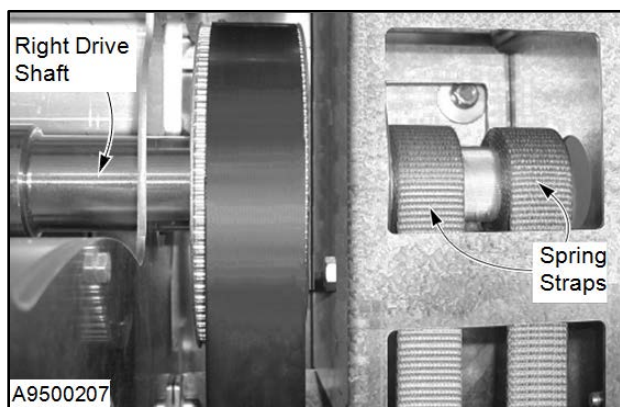

Figure 27
9. Inspect the clamp plate securing the upper end of each spring strap to its respective drive shaft. Tighten the hardware as required. Replace any missing or damaged hardware. (See Figure 27.)